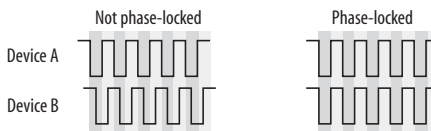

Figure 4-15: When transferring audio, two devices must have phase-locked audio clocks to prevent clicks, pops or other artifacts.
- Synchronizing the 828mk3 with other digital audio devices so that their digital audio clocks are *phase-locked* (as shown in Figure 4-15)